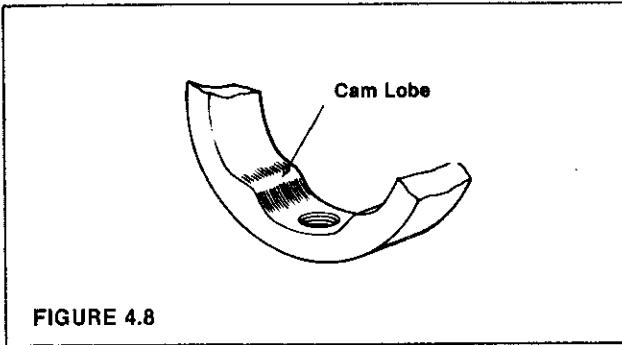

FIGURE 4.8
8. Cam - Since only the working portions of the lobes on the inside diameter are ground, any tool marks between lobes should not be considered as damage. The mottled appearance of the cam is from heat treatment rather than from operation. Carefully inspect the cam lobes and edges of all flat surfaces. If there is evidence of spalling or flaking out, replace with a new cam (Figure 4.8).